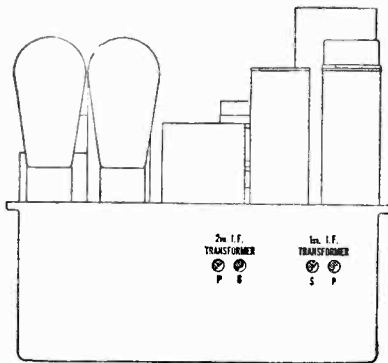

Figure 5—I. F. Alignment Location
**I. F. Tuning Adjustments**—Two transformers comprising four tuned circuits are used in the intermediate amplifier. These are tuned to 175 K. C. and the adjustment screws are accessible from the rear of the chassis. See Figure 5 for location of the adjustment screws and proceed as follows: